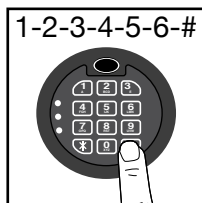

Figure 4.1
1. Enter the preset factory code “1-2-3-4-5-6” followed by the “#” key. You will hear two (2) beeps and the green LED will flash (Figure 4.1).